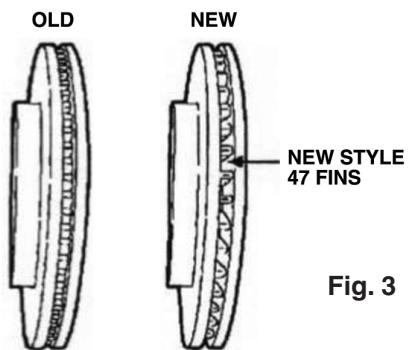

Fig. 3
- 2) Check the rotors to determine if the truck is fitted with new or old style rotors. The new style rotors contain 47 cooling fins (see Fig. 3).
- 5) Install Ford's revised pre-assembled/loaded caliper assemblies (see Fig. 3 for part numbers).